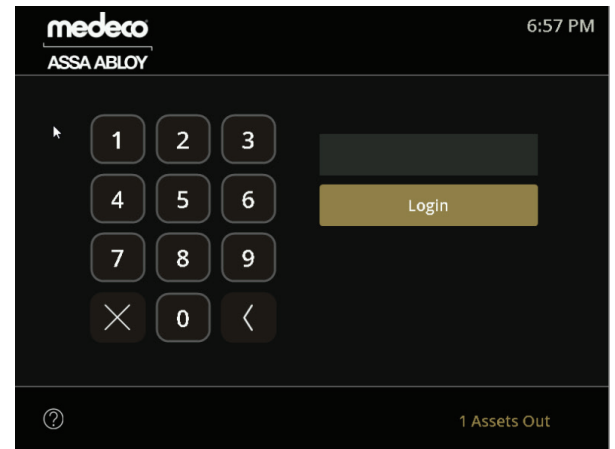

Figure 25: Login Screen
When the system is ready, you will see the login screen (figure 25). In order to view the current system status, click the question mark icon at the bottom left-hand corner. On this screen, you will see if the system can connect to the Primary Web Service (WS) and Primary Database (DB). Both of these must have the status of CONNECTED displayed on the main screen for the system to function properly.
On the bottom right of the screen (figure 25) you will see the status of your assets in the cabinet. Use this for a quick look to be sure all assets are in at the end of the day or just to check and see how many assets are out as you walk by the system.